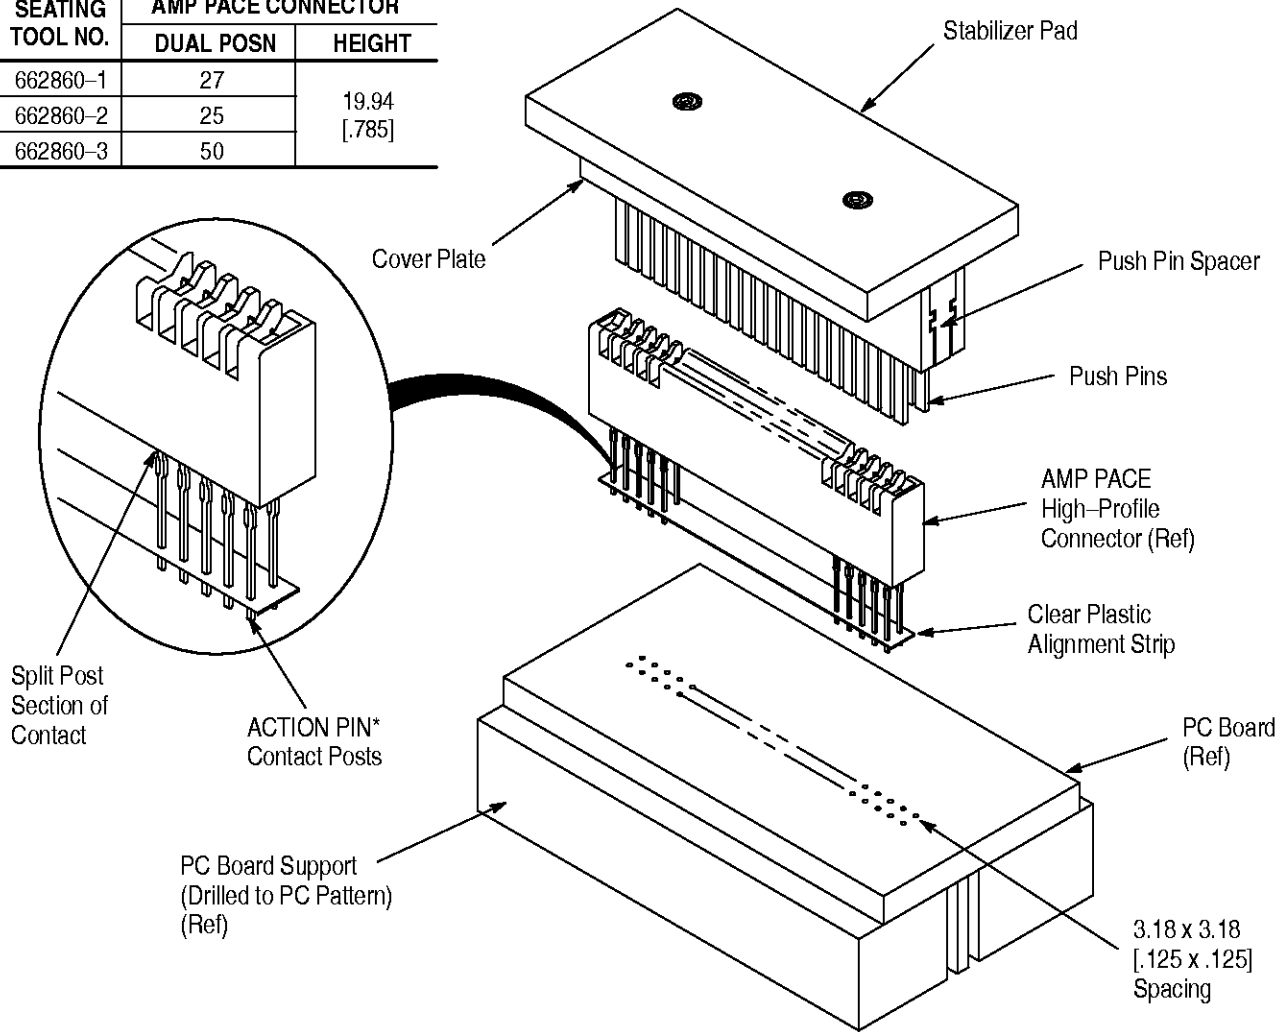

Figure 1
2. DESCRIPTION (Figure 1)
4. Place an appropriate board support (Figure 1) under the pc board to provide support for the board and to protect the contact posts during insertion.